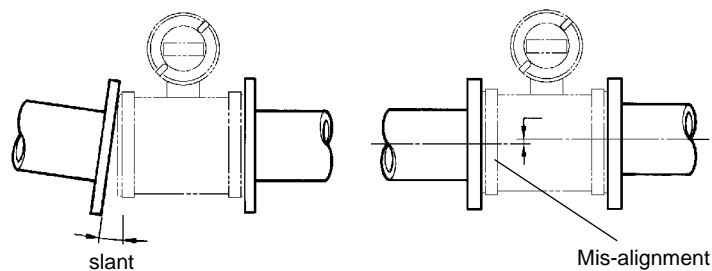

Figure 4.2.2 Slant and Mis-alignment of Flowmeter Piping
- Please correct mis-alignment or slanted piping and improper distance between mounting flanges before install the flowmeter. (Please refer to Figure 4.2.2)